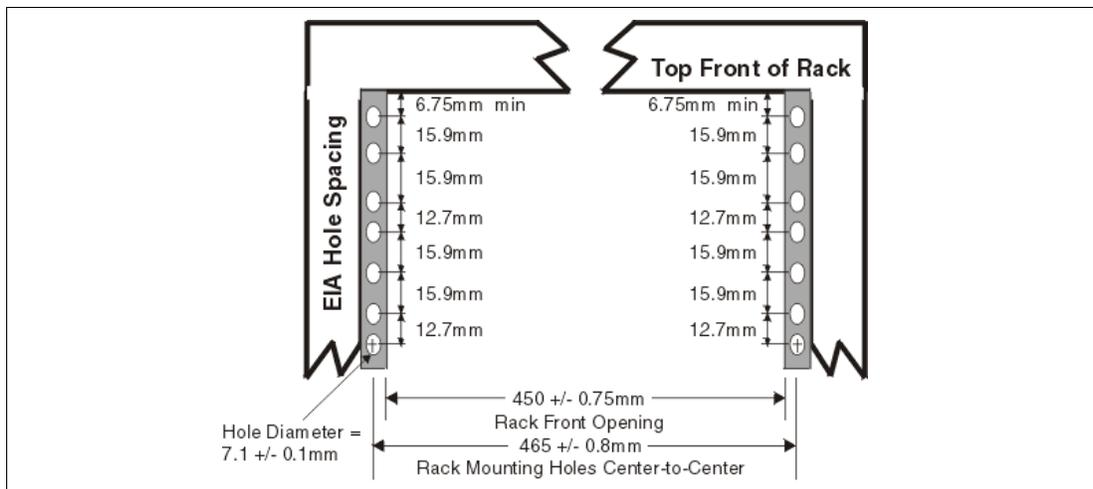
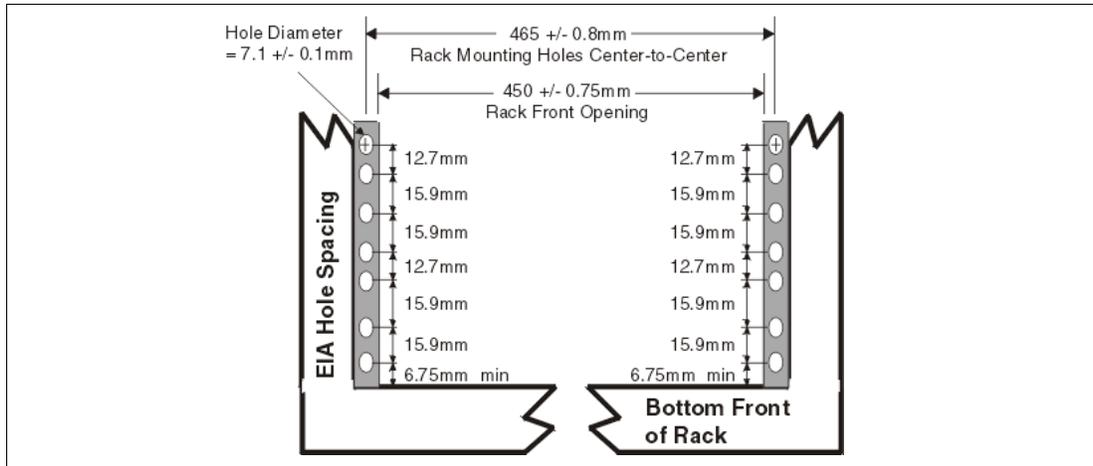

Figure 1-6 Rack specification dimensions, top front view
Figure 1-7 Rack specification dimensions, bottom front view
- ▶ The vertical distance between the mounting holes must consist of sets of three holes spaced (from bottom to top) 15.9 mm (0.625 in.), 15.9 mm (0.625 in.), and 12.67 mm (0.5 in.) on center, making each three-hole set of vertical hole spacing 44.45 mm (1.75 in.) apart on center. Rail-mounting holes must be 7.1 mm + 0.1 mm (0.28 in. + 0.004 in.) in diameter. See Figure 1-6 and Figure 1-7 on page 23 for the top and bottom front specification dimensions.